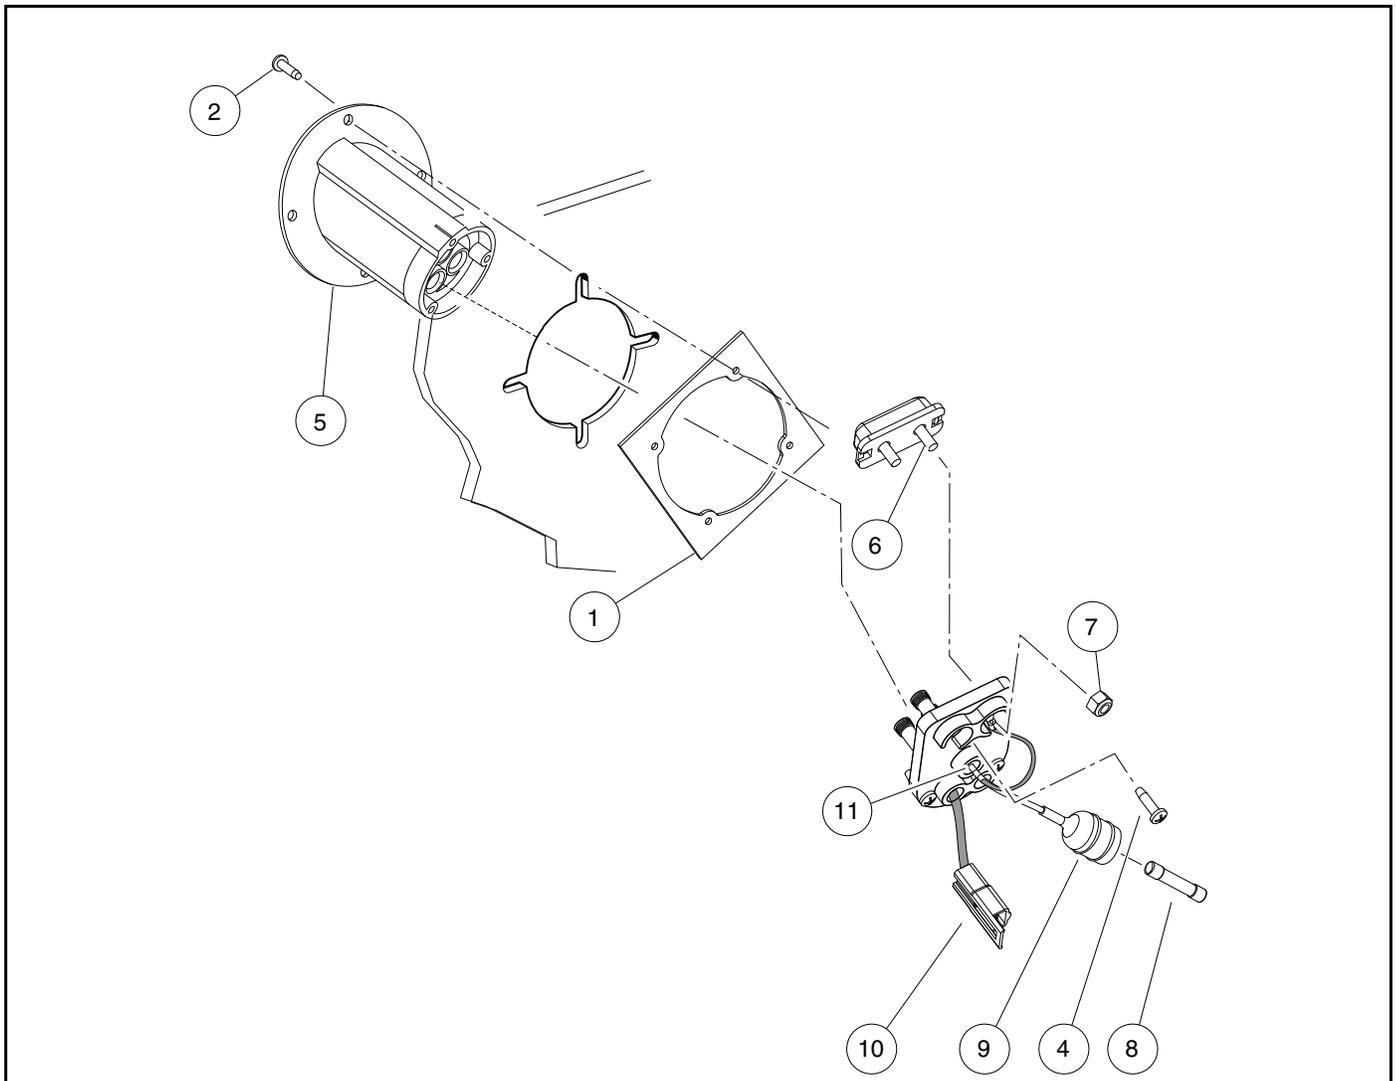

Figure 24-11 Charger Receptacle
2. Remove the 10-gauge red wire from the connector plug (10) (**Figure 24-11, Page 24-15**).
4. Disconnect the gray wire from the receptacle at the yellow fuse holder (9).
5. Remove the four screws (2) that secure the charger receptacle bevel to the receptacle backing plate (1) and to the vehicle body.
1. Insert the 10-gauge red wire and the 18-gauge gray wire through the hole in the vehicle body and the receptacle backing plate (**Figure 24-11, Page 24-15**).
3. Install the four screws (2) that secure the receptacle to the vehicle body and receptacle backing plate (1). Tighten screws to 16 in-lb (1.8 N·m).
4. Connect 18-gauge gray wire to yellow fuse holder (9). Make sure fuse (8) is installed in fuse holder.
6. Connect the 10-gauge red wire (10) to the connector plug.
The fuse link on the 48-volt Club Car electric vehicle should not blow under normal operating conditions; however, if the fuse link has blown, the vehicle will not charge and the fuse must be replaced. The fuse link (6) is mounted on top of the charger receptacle in the battery compartment (**Figure 24-11, Page 24-15**).
2. Remove the fuse link (6) from the charger receptacle (5) by removing the two nuts and washers used to secure the 10-gauge black wire (11) from the computer and the 10-gauge black wire to the receptacle (**Figure 24-11, Page 24-15**).
3. Remove the fuse link (6) from the charger receptacle.
3. Install nuts (7) on fuse link mounting posts and tighten to 23 in-lb (2.6 N·m) (**Figure 24-11, Page 24-15**).